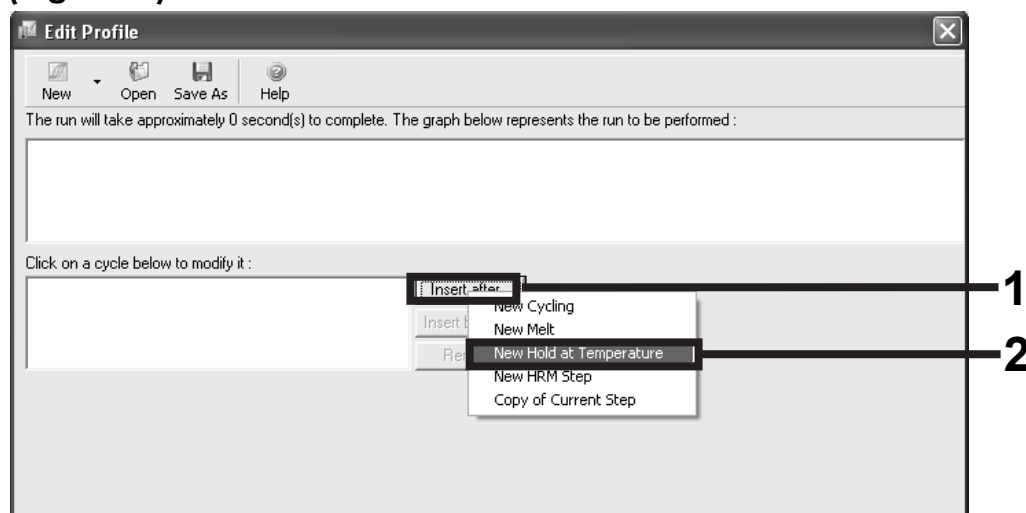

Figure 4. Initial incubation step at 95°C.
Initial activation of the hot-start enzyme	Figure 4
- Click the “Insert after” button and select *New Hold at Temperature* (Figure 4).